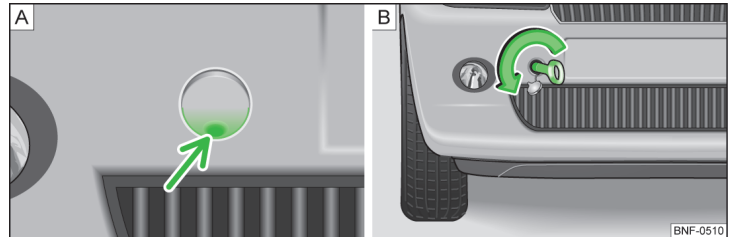

Fig. 118 Removing the cap/installing the towing eye
➤ Press the cover in the arrow area » Fig. 118 - [A].
- Screw in the towing eye by hand up to the stop » Fig. 118 - [B].